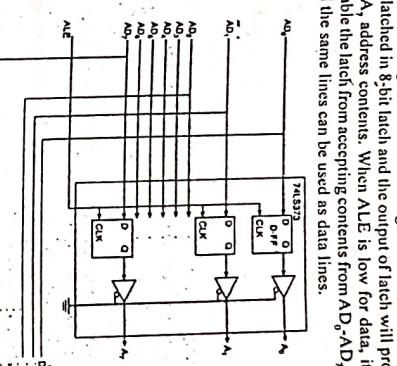
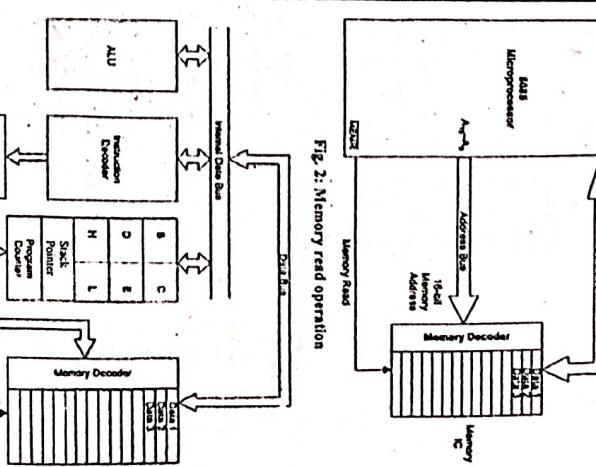

Fig. 2
Fig. 3: Data flow from memory to microprocessor
The demultiplexing of these lines is done by using an 8-bit D-latch IC (shown in Fig. 2) along with the ALE signal as shown in Fig. 3. When ALE is high the address signals will get latched in 8-bit latch and the output of latch will provide A0-A7 address contents. When ALE is low for data, it will disable the latch from accepting contents from AD7-AD0 lines and the same lines can be used as data lines.
**Fig. 2 shows the memory read operation. Initially, the microprocessor places a 16-bit address on the address bus. Then the external decoder logic circuit decodes the 16-bit address on the address bus and the memory location is identified. Thereafter, the microprocessor sends MEMR/Memory (RWM) control signal which enables the memory IC. After that, the content of the memory location is placed on the data bus and also sent to the microprocessor. Fig. 3 shows the data flow diagram for data transfer from the memory to microprocessor. The step-by-step procedure of data flow is given below:**
Fig. 3 shows the data flow operation. Initially, the microprocessor places a 16-bit address on the address bus. Then the external decoder logic circuit decodes the 16-bit address on the address bus and the memory location is identified. Thereafter, the microprocessor sends MEMR/Memory (RWM) control signal which enables the memory IC. After that, the content of the memory location is placed on the data bus and also sent to the microprocessor. Fig. 3 shows the data flow diagram for data transfer from the memory to microprocessor. The step-by-step procedure of data flow is given below: